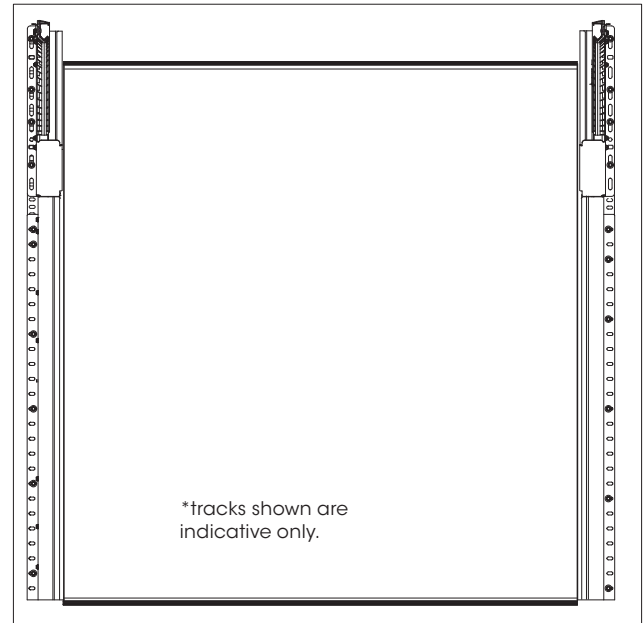

Fig: 3.1.1
- a) Set the vertical tracks parallel on both sides of the door. Use the level/datum marks to ensure the tracks are level with each other or the door will not function correctly. Fig 3.1.1